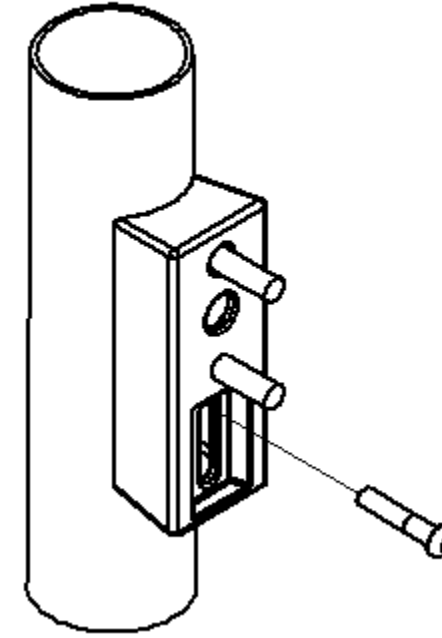

FIGURE 6A
7. From bracket kit, locate 3/8 x 2-1/2" long button head screw. Utilizing a 7/32 Allen wrench fully thread screw through BOTTOM bracket hole, through pole, then into BOTTOM nutplate hole. See Figure 6A & B.